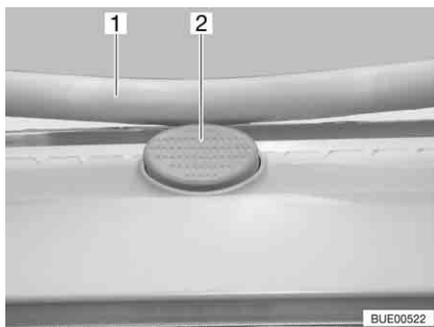

Fig. 63 Safety knob on the Heki skylight
- Press the safety knob (Fig. 63,2) and pull the bar (Fig. 63,1) down with both hands.
- Push the bar upwards with both hands until it is above the safety knob (Fig. 63,2).